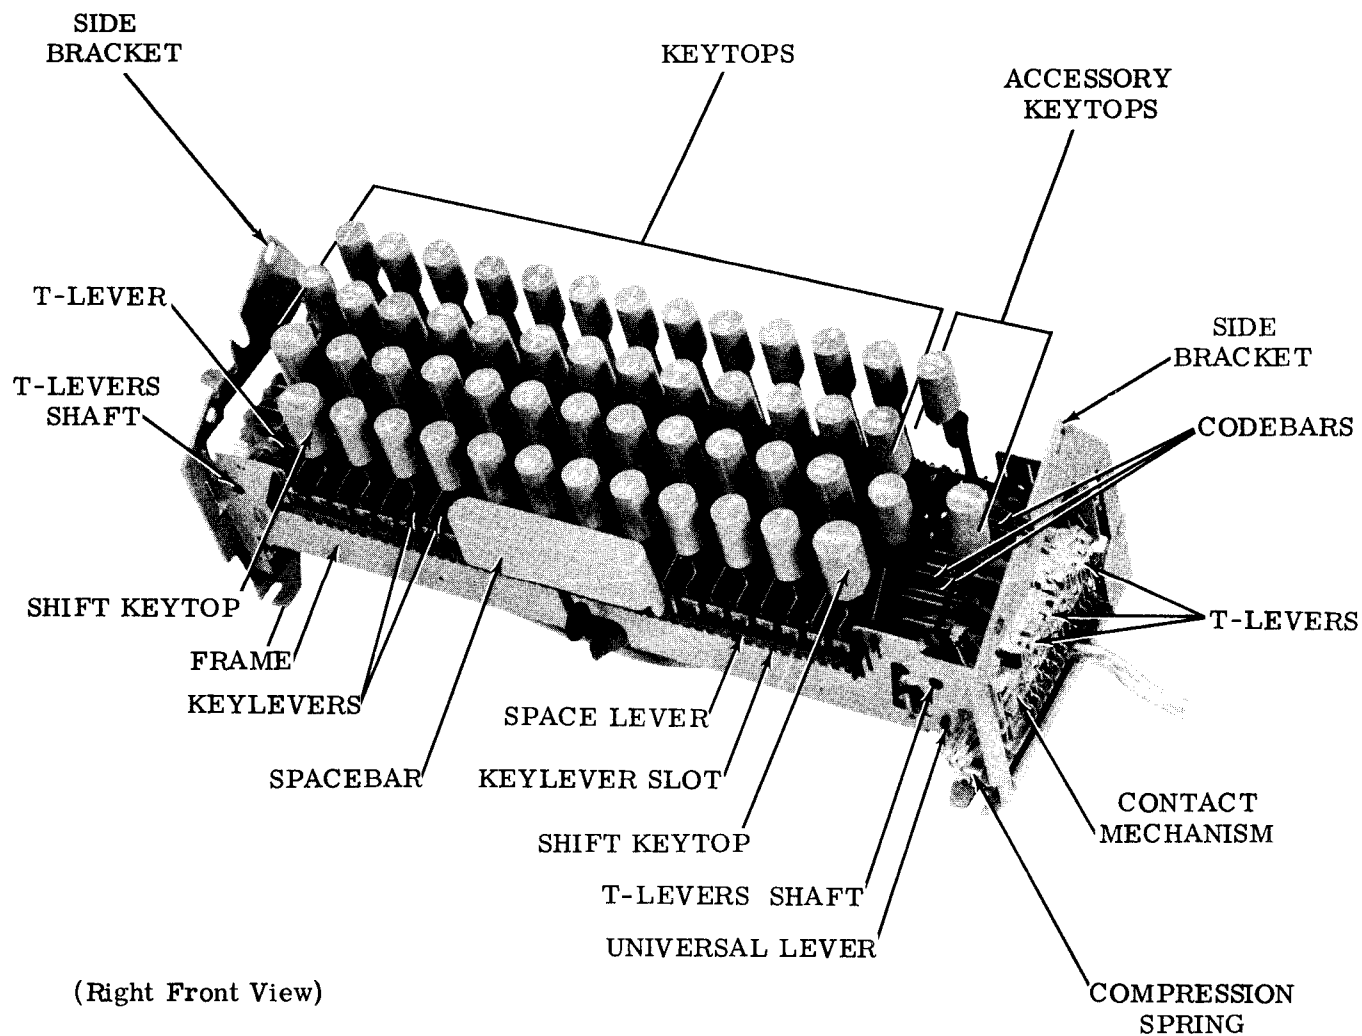

Figure 3 - Keyboard (Cover Removed)
1.04 References to left, right, front, rear, etc consider the keyboard to be viewed from a position where the spacebar (Figure 3) faces up and the contact mechanism is located to the viewer's right.